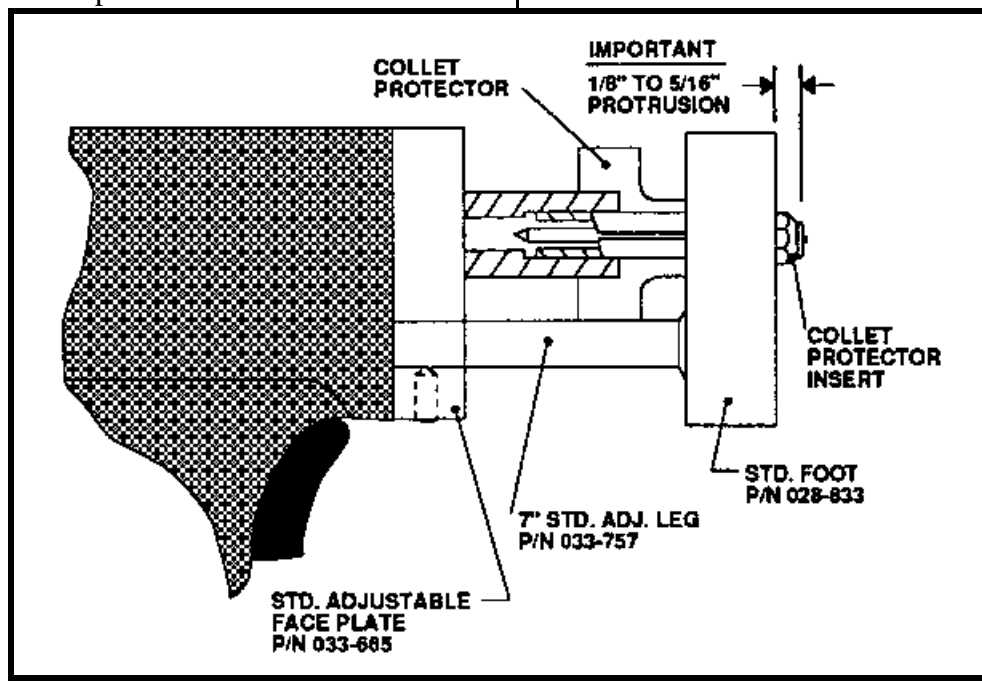

Figure 7 Collet Protector Gun Setup
11.4 TEMPLATE ADAPTER (see Figure 7)